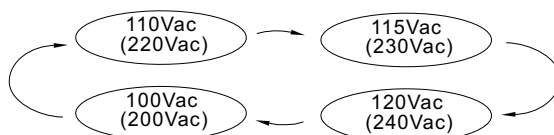

Figure 4.2: State Circulation Diagram of Output Voltage
STEP 4: The LED will change state each time you press the setting button for 1 second and then release (refer to Figure 4.2). Please select the voltage that you need.
STEP 7: The LED will change state each time you press the setting button for 1 second and then release (refer to Figure 4.2). Please select the frequency that you need.